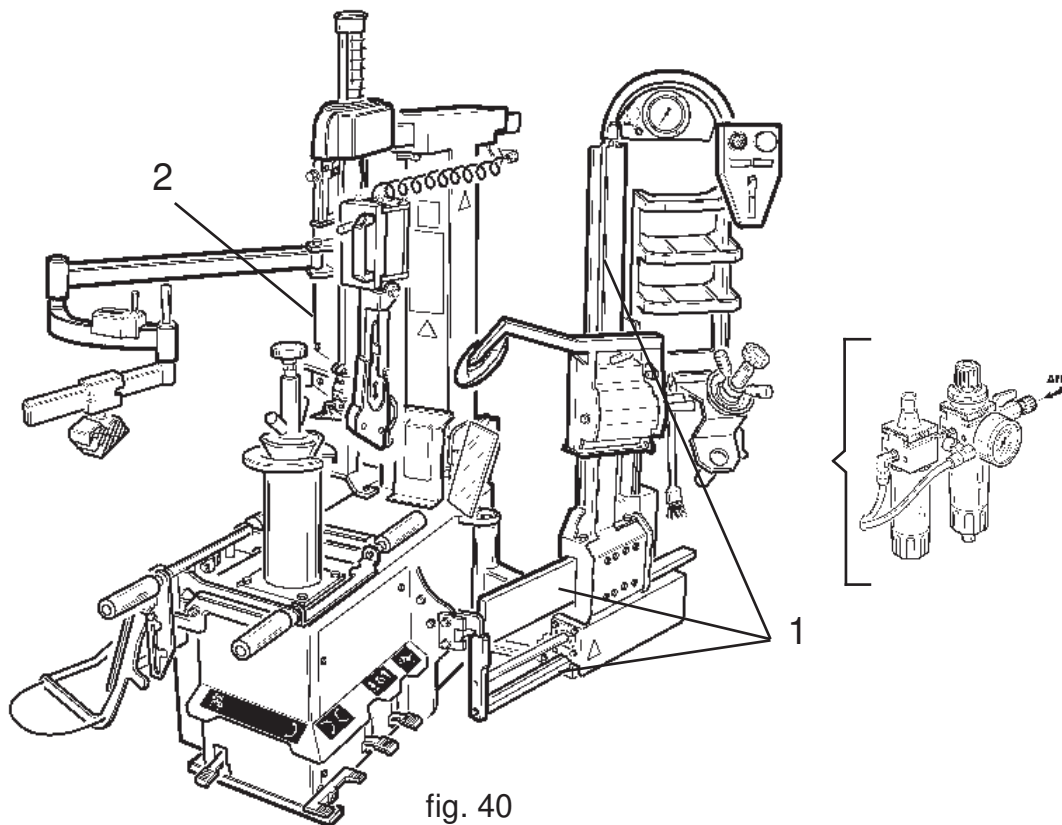

fig. 40
- On a weekly basis, after cleaning thoroughly with vaporizing solvent, lubricate the guides of the bead loosening carriage (1) and the guide of the Press Arm with chassis grease (2) (fig. 40).